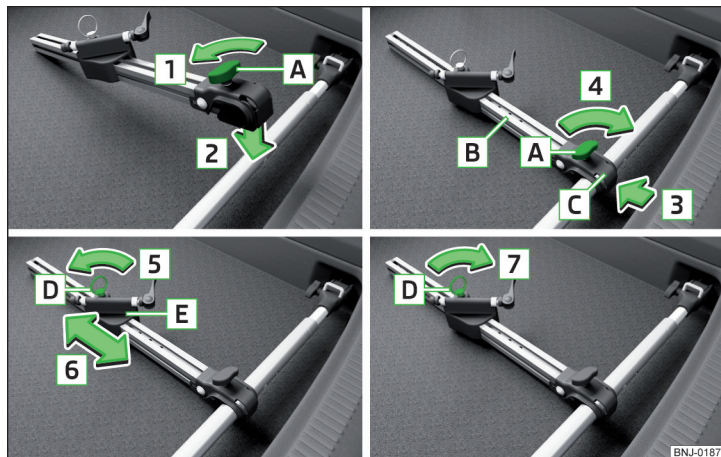

Fig. 120 Fitting the bike rack
- › To install, loosen screw **A** on the bicycle rack (hereinafter only referred to as "carrier") in direction of arrow **1** » Fig. 120.
- › If you want to transport two bicycles, loosen screw **A** » Fig. 120 on page 89 on the carrier and move the carrier along with attached bike to the left.
- › Tighten screw **A** » Fig. 120 on page 89 on the support.
- › If necessary, the position of the sliding part **E** » Fig. 120 on page 89 can be adjusted.